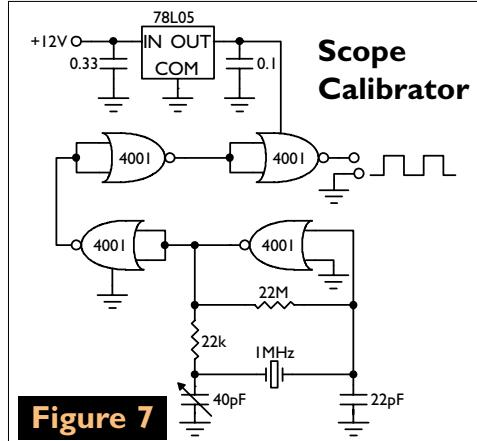

Figure 7
A. Your best bet would be to start with a 1-MHz crystal oscillator, then buffer its output so that it's isolated from the load (your test probe), like the circuit shown in Figure 7. The 78L05 regulator holds the output voltage stable within five percent of 5 volts, which is plenty adequate for all but the most demanding work. Although I specified the input voltage at 12 volts, it's only because 12 volts is a common source in most test instruments. Any voltage between 7 and 35 volts will work. Because the oscillator is crystal controlled, the output waveform can be used as a reference to calibrate the time base (each pulse is 0.5 μ s wide, one cycle is 1 μ s); this time base is stable to better than .001%; use the 40 pF trimmer capacitor to pull the oscillator frequency one way or the other.